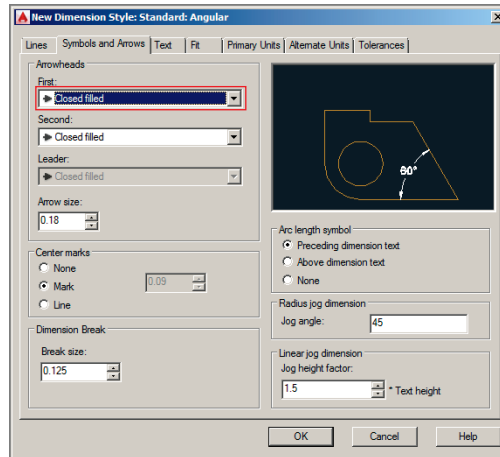

FIGURE 11.8 Customizing the arrowheads in the Angular sub-style
- The New Dimension Style: Standard: Angular dialog box appears. Select the Symbols And Arrows tab. Change the First arrowhead drop-down to Closed Filled. The Second arrowhead automatically changes to Closed Filled as well (see Figure 11.8). The preview image reveals how the angular dimension will appear. Click OK.